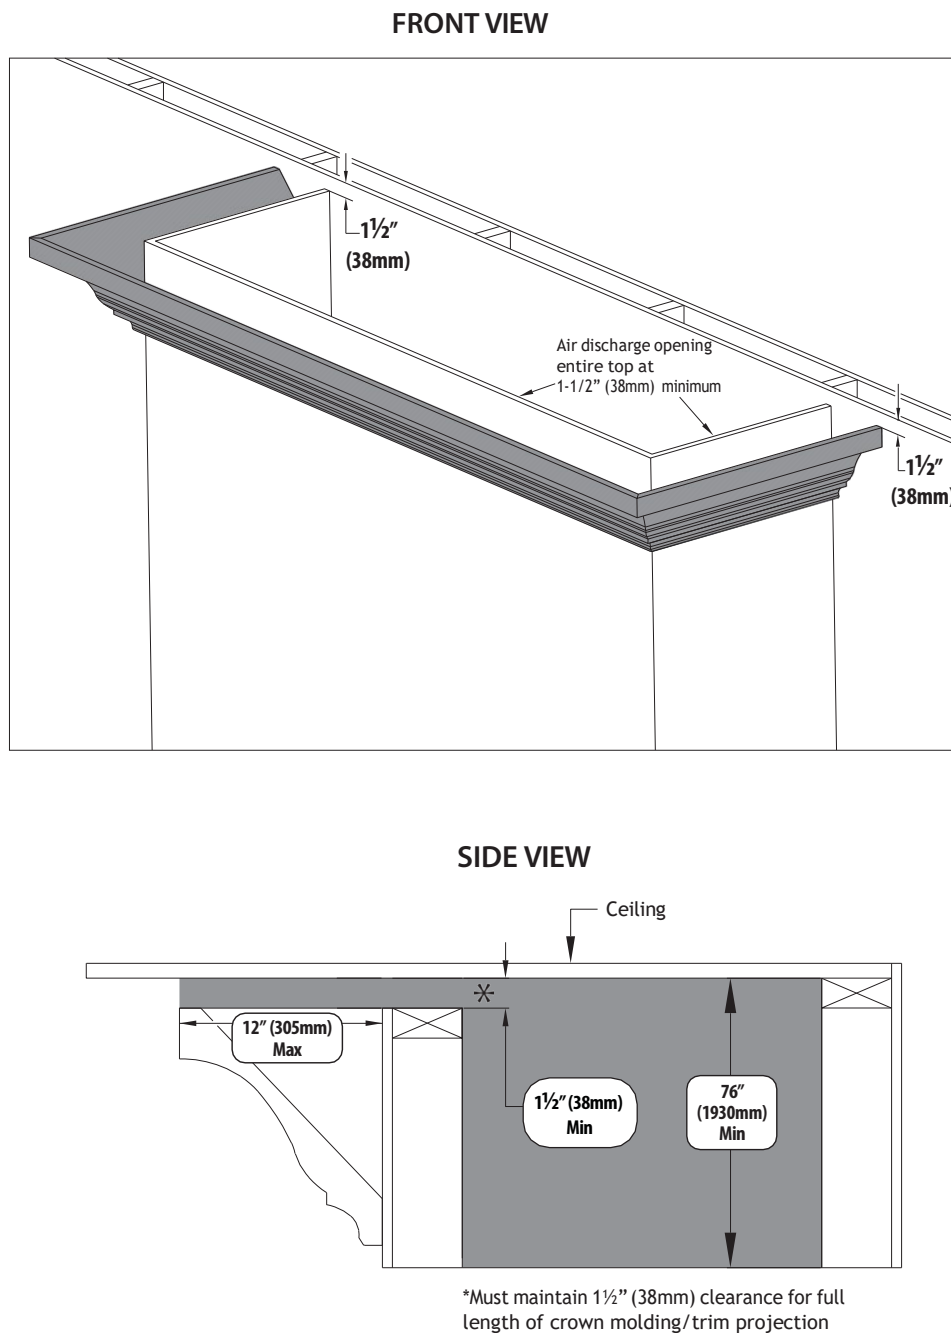

FIGURE 3.20 Top Vented Cavity Crown Molding Installation
- FIGURE 3.20 shows the installation of crown molding or similar trim work that goes up to the edge of the air discharge opening. 12" (305mm) is the maximum length of the molding or trim projection and you must maintain 1-1/2" (38mm) clearance for the full length of crown molding/trim projection. This molding or trim cannot decrease the minimum opening requirement.